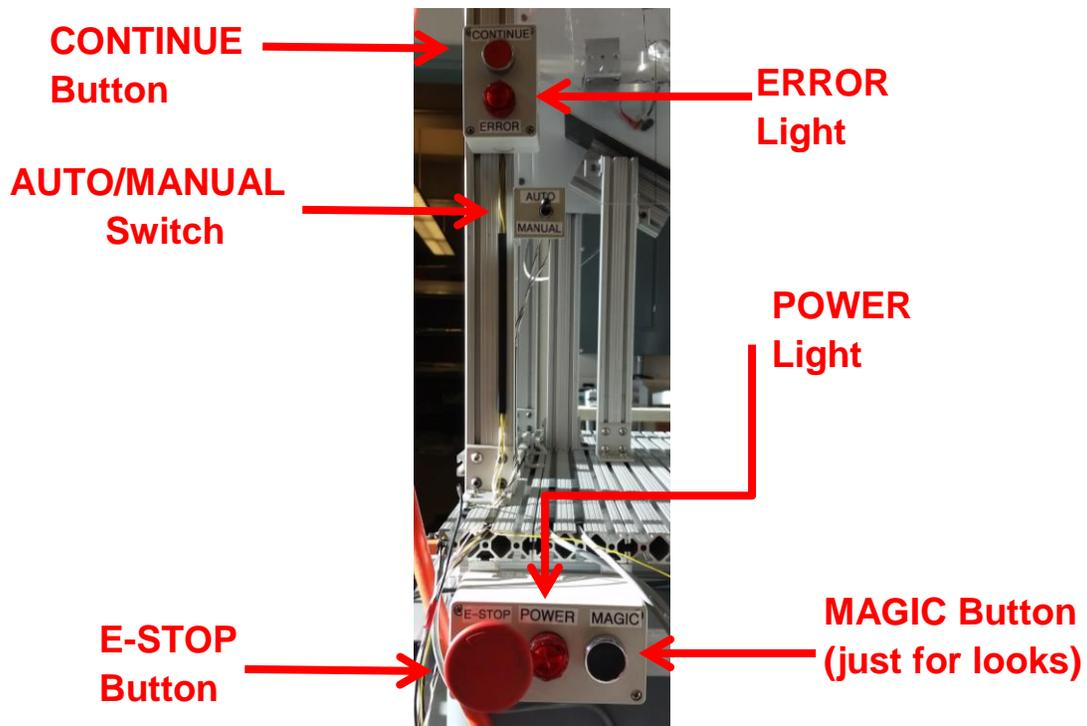

Figure 2. The Button Layout.
- Figure 2. The Button Layout 5
3. Turn 'E-STOP' button clockwise to turn on airflow and power (see figure 2).
4. Turn switch to 'AUTO' to start operation (see figure 2).